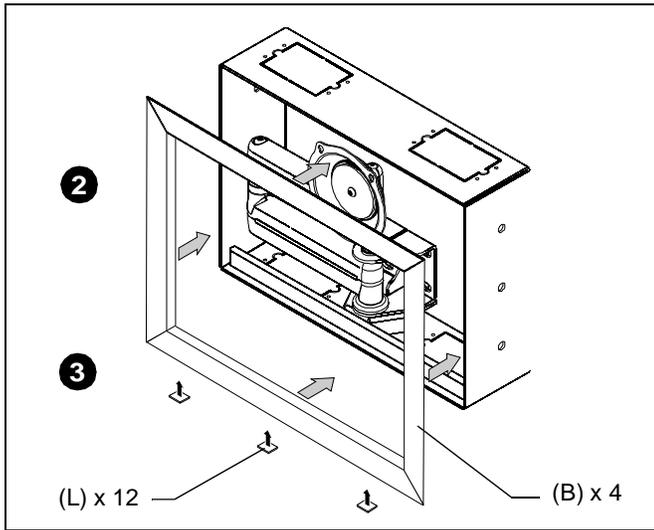

Figure 7
1. Remove paper covering adhesive from tape squares (L) and affix three tape squares to inside lower flange of each trim piece (B). (See Figure 7)
2. Orient trim pieces (B). (See Figure 7)
3. Remove paper covering adhesive back from tape squares (L) on trim and press trim (B) against inner wall of box. (See Figure 7)